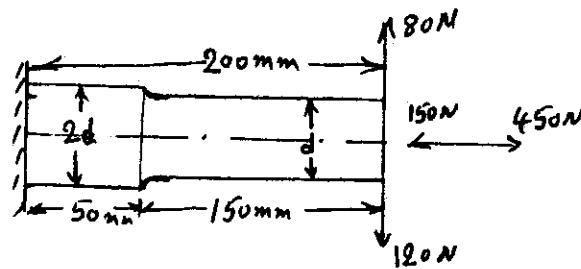

Fig.Q3(b)
b. A steel cantilever of 200 mm long is subjected to combined loading is as shown in Fig.Q3(b). The cantilever is of circular cross-section. Determine its diameter taking a factor of safety of 2. Take $\sigma_y = 330$ MPa, $\sigma_{en} = 300$ MPa, stress concentration factor for static axial and bending load is 1.64 and 1.44 respectively. Choose proper values of modifying factors "A", "B" and "C" from data handbook. Notch sensitivity index is 0.9. (15 Marks)